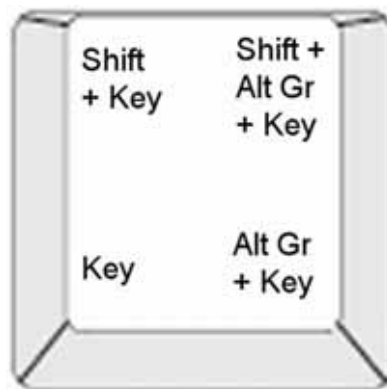

Figure 4-1. Keystroke Combinations
Keycaps show characters in one of four positions (see Figure 4-1). The character position on the physical key indicates how to access the characters with the <Shift> and <Alt Gr> keys.
2. Type the appropriate keystroke combination (see Figure 4-1). The table shows example keystroke combinations.